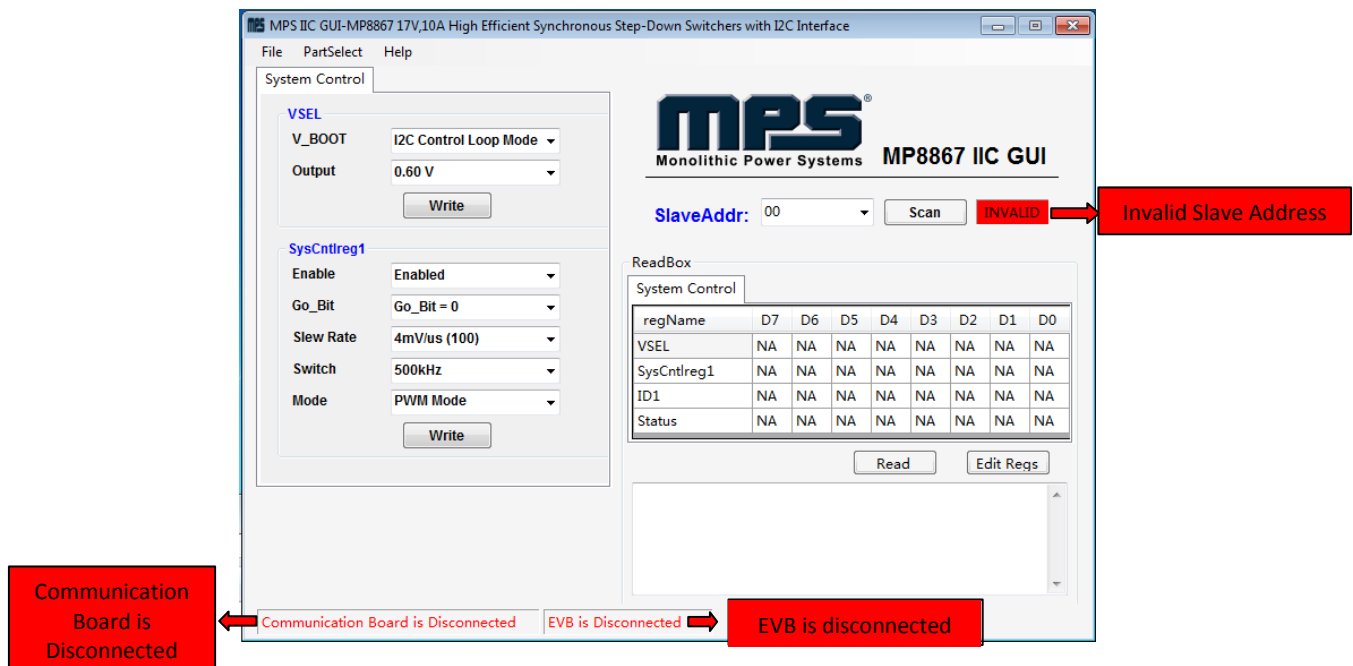

Figure 8: Warning Indicates Unsuccessful Connection – Evaluation Board not Connected
- If not, a warning will appear at the bottom. There are two warnings a user can expect (see Figure8). Each of warning means invalid connection.